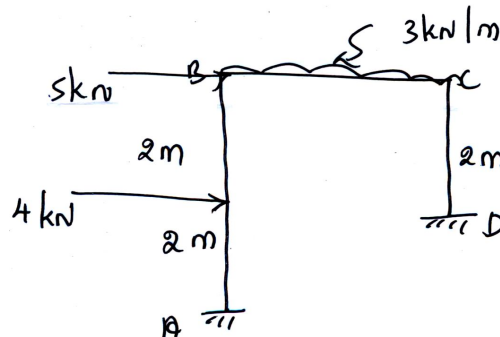

Fig.Q.6
- 6 Determine the support moments for the rigid frame shown in the Fig.Q.6. Use element stiffness matrix method. Draw BMD and elastic curve. EI is constant. (20 Marks)